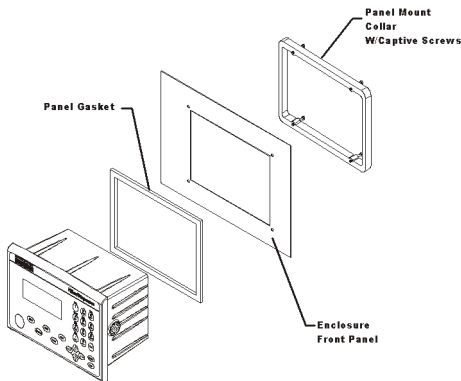

FIG. 2 PANEL MOUNT INSTALLATION
- Step 2. Slide the gasket over the rear of the instrument until the gasket is flush with the back side of the front panel. (See Fig.2)
- Step 4. Gently slide the Panel Mount Collar over the rear of the instrument. (See Fig. 2)